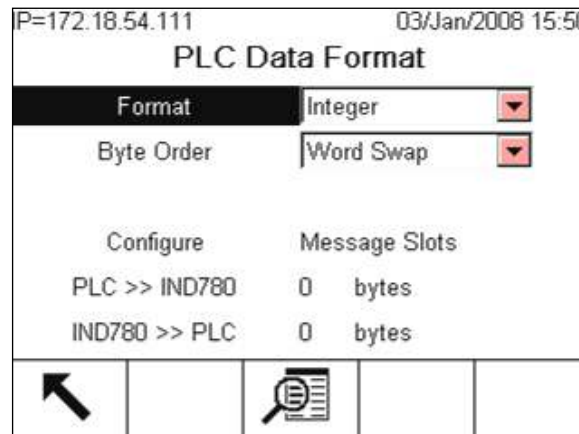

Figure 4-7: PLC Data Format Screen
1. From Setup, access **Communication > PLC Interface > Data Format**. Format may be selected from a drop-down list as shown in Figure 4-7. When Application format is selected, only the Format box appears on this screen.
4. The bottom of this screen (Figure 4-7) displays the number of bytes that will be sent by the IND780 and the number of bytes expected from the PLC.